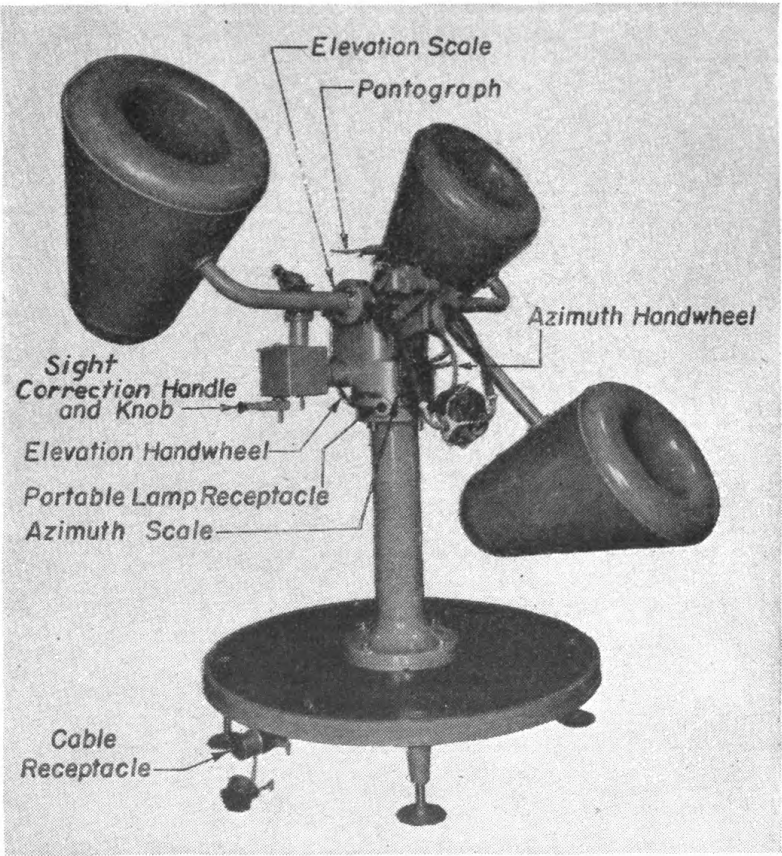

FIGURE 23.—Sound locator M2.
- (1) Two horn assembly.
- (2) Single horn assembly.
- (3) Corrector assembly (in carrying case).
- (4) Column.
(5) Platform.
(6) Cable and cable reels.
Q. Which horn is a common horn for the azimuth and elevation listeners? A. Upper right horn, figure 23.
Q. Give the nomenclature and state the purpose or use of each part of the M2 sound locator. A. See figure 23.
10. Target air speed scale....	Air speed of airplane is indicated in miles per hour. Use knob (2) to set in correct air speed.
11. Pantograph pointer and ball.	The corrector operator centers the pantograph ball on the cross lines of mirror (12).
Q. Point out the following parts and give the purpose or use of the part (fig. 23) :
Common horn.....	Used to collect sound for both azimuth and elevation. (Upper right horn, fig. 23.)
Elevation horn.....	Used to collect sound for azimuth. (Lower right horn, fig. 23.)
Azimuth horn.....	Used to collect sound for azimuth. (Left horn, fig. 23.)